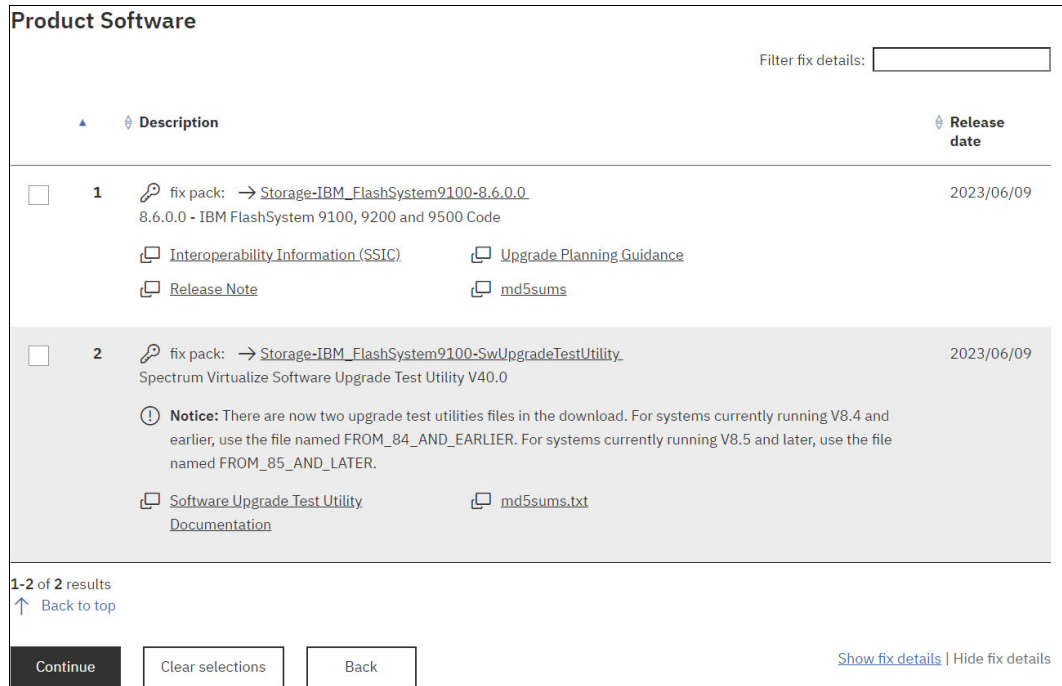

Figure 10-4 Fix Central download
10. Select **Download Now** and save the three files onto your management computer. Figure 10-4 on page 650 shows the window for downloading the package.